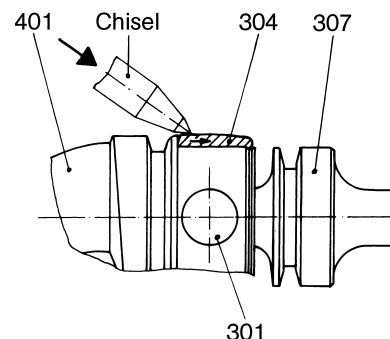

Figure 3: Removing the retaining sleeve.
- Lift the cover sleeve (308) with a screwdriver and pull it off axially in the direction of the coupling rod (307).
- Drive the retaining sleeve (304) over the flange of the coupling rod (307). Do not twist the coupling rod (307) in the process (see Figure 3).